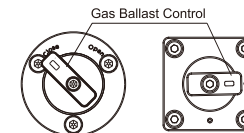

Fig. 6
Close the gas ballast to pump non-condensable gases (Gas ballast position refer to Fig. 6).
- 2.1). If the vacuum system contains a small amount of condensable gas, open gas ballast (Move gas ballast to open position refer to Fig. 6) to displace the vapor.